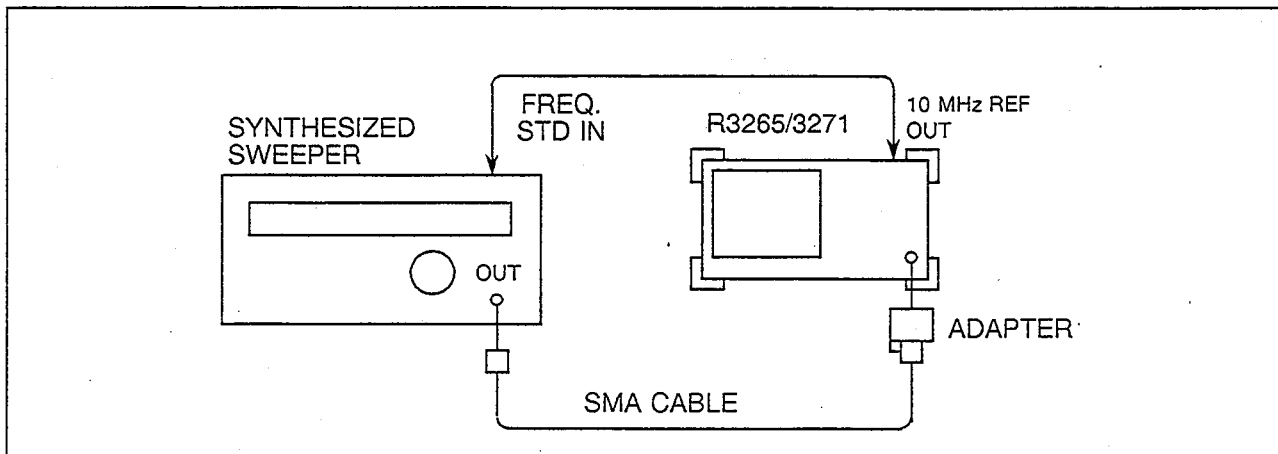

Figure 4-6 Frequency Span Accuracy Test Setup
- (1) Connect the equipment as shown in Figure 4-6.
- (2) Set the TR4515 controls as follows: